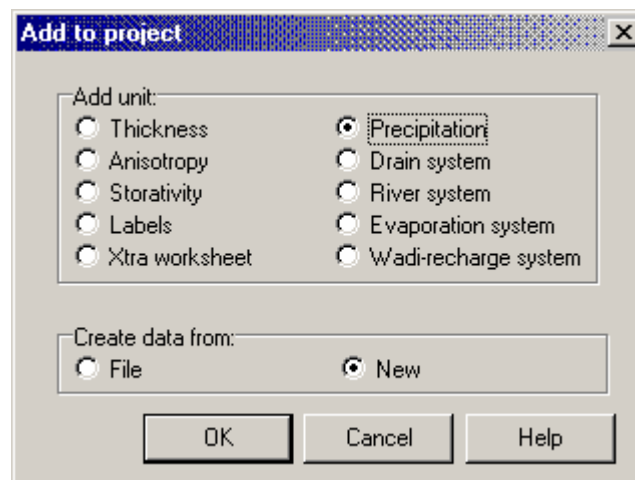

Figure 20: Program manager, Add unit menu
2. Click on the -button (Add to project). Now the following pop-up menu appears (Figure 20):
3. Select "Precipitation" and make sure that this unit is created "new" (see Figure 20).